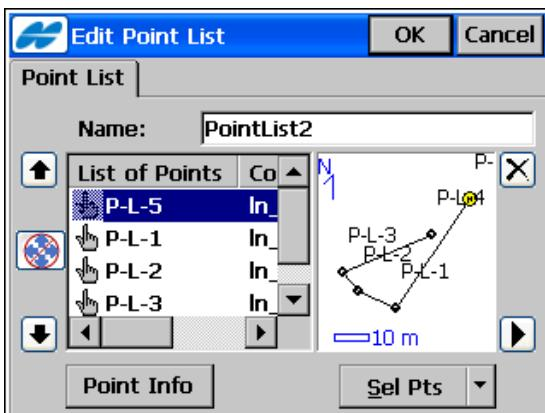

Figure 6-37. Edit Point List
- **Edit** – edits the properties of the selected List. The **Edit Point List** screen displays (Figure 6-37 on page 6-33).
The **Edit Point List** screen (Figure 6-37 on page 6-33) is similar to the **Add Point List** screen.